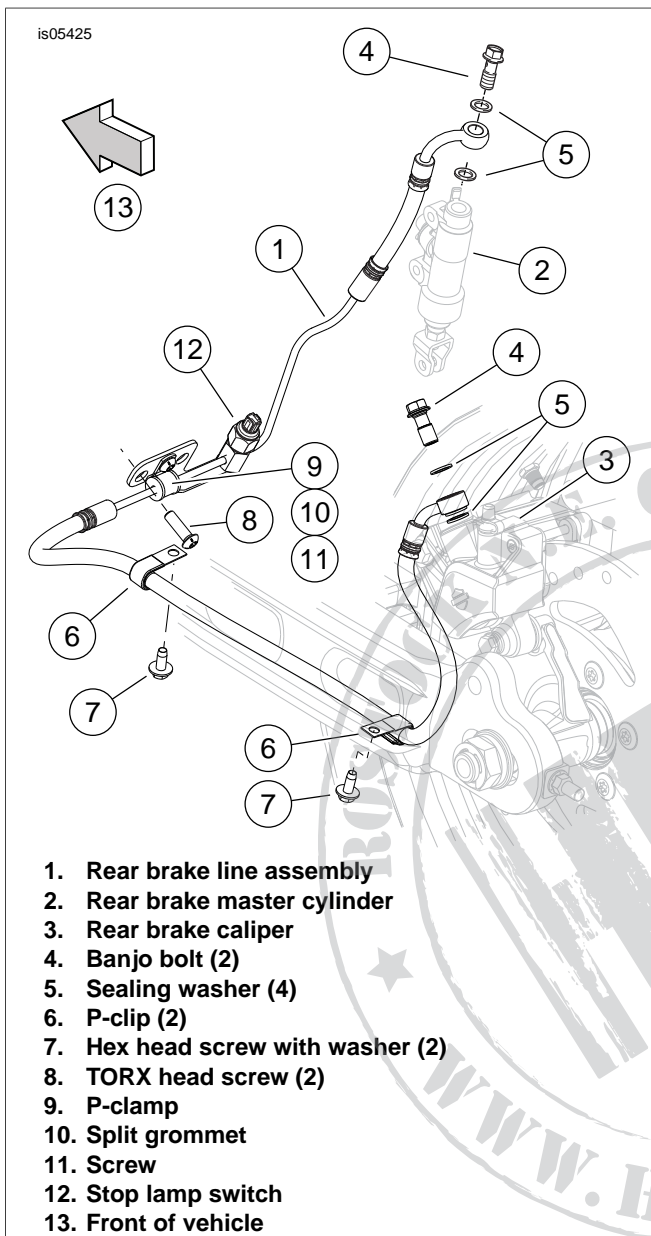

Figure 1. Original Rear Brake Line Assembly
See Figure 1. Disconnect the rear brake line assembly (1) from the rear brake master cylinder (2) and rear brake